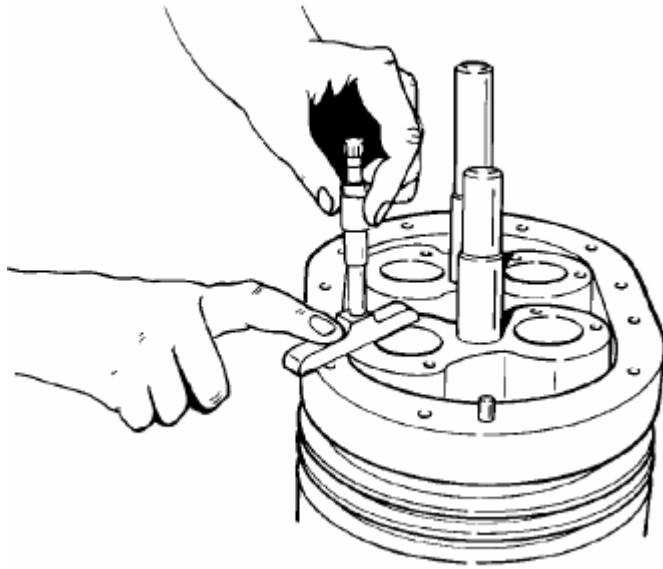

FIGURE 7-2
5. Position blower so that impellers are vertical, with the drive end on top. It will be necessary to use blocks in order for the unit to set level. Measure the total end clearance using a depth micrometer (see Figure 7-2).